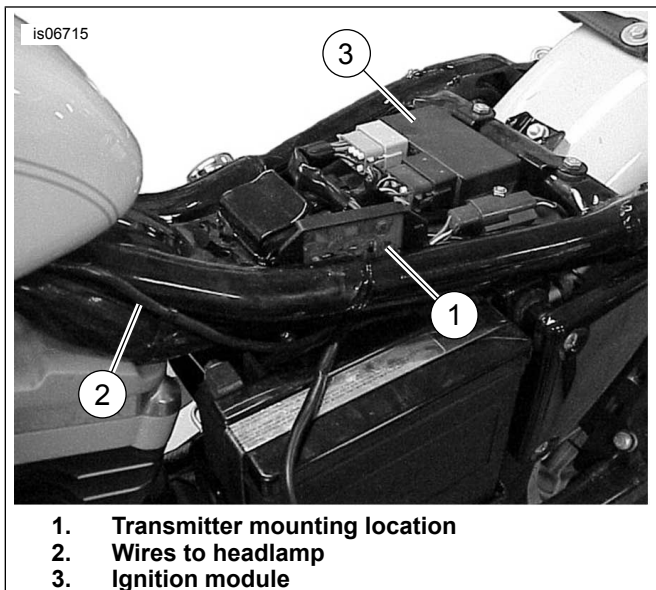

Figure 8. Transmitter Mounting and Wire Routing (2003-Earlier Sportster)
2. See Figure 8. Position the transmitter (1) to the main wire harness in the area under the seat, as far as possible from the oil tank. Fasten the transmitter to the harness using cable straps from the kit.